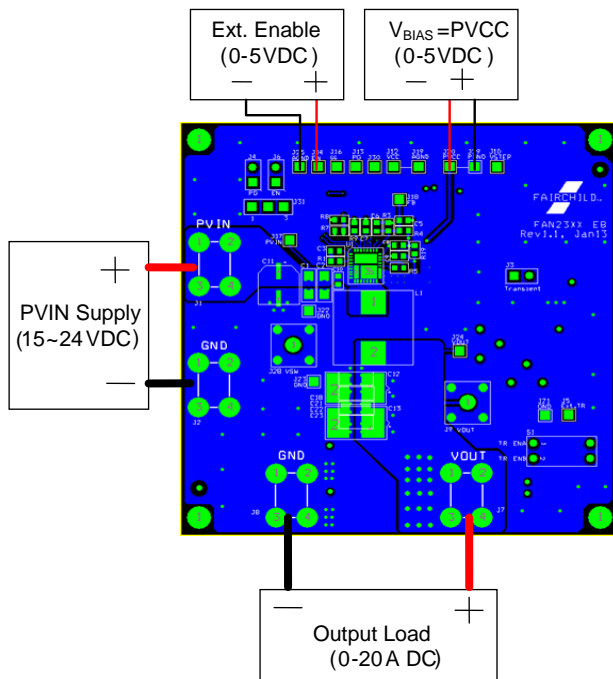
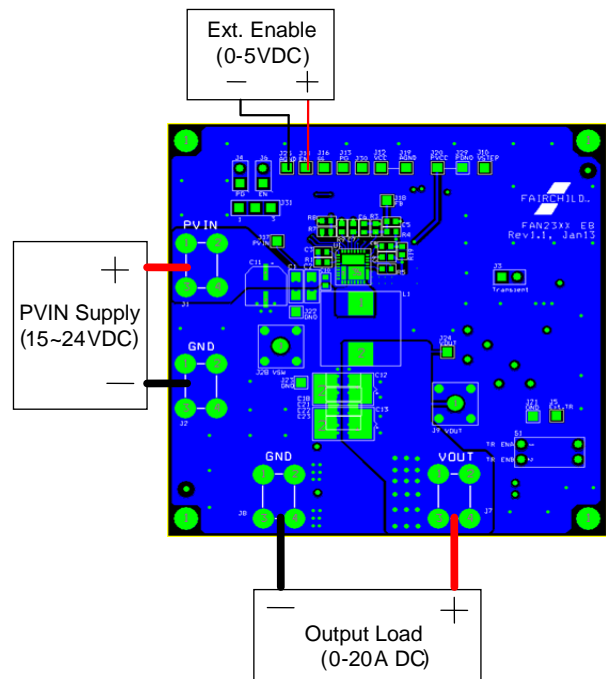

Figure 3. Test Setup for Non-SV Application
Figure 4. Test Setup for SV (Single Voltage)
- Adjust  $V_{IN}$  power supply, PVCC bias supply, and external EN supply to 0 V; connect as shown in Figure 3 (non-SV part) or Figure 4 (SV part).
The FAN23XX evaluation board can be enabled using an external-enable-logic signal, as shown in Figure 3 and Figure 4. By default, R8 is populated with 1 M $\Omega$  to hold EN LOW. For non-SV parts, an auto-enable function can be implemented by placing a shorting jumper in location J6 to enable the part when PVCC is applied.
- Set up equipment and board as shown in Figure 3 or Figure 4.